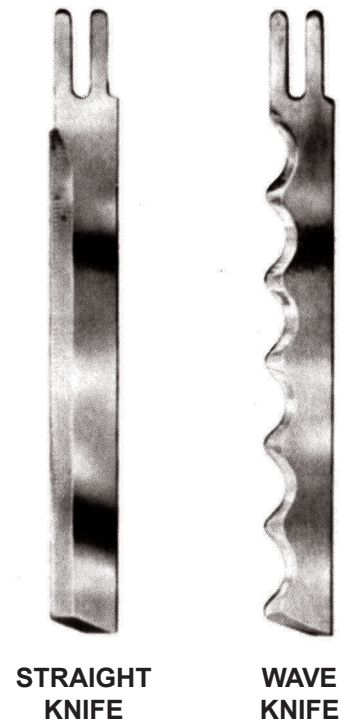

Figure 8. Available Eastman Knife Types
**Note: For best results, use only Eastman knives. The limited warranty covering your machine is not valid if you use knives other than those manufactured by Eastman.** The available knives and accessories are shown in Figure 8 and in the selection charts on the next page.